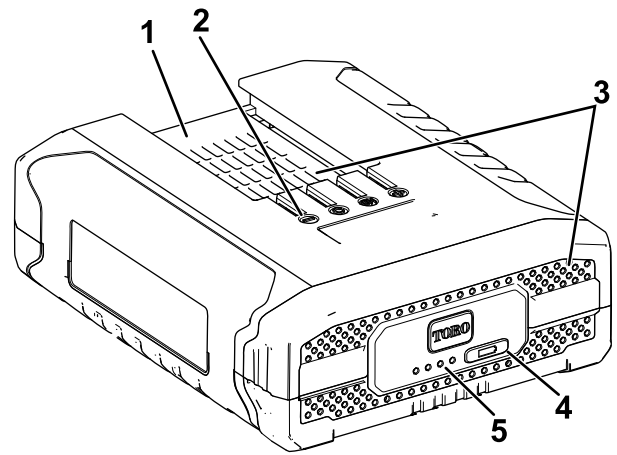

Figure 8
2. Line up the cavity in the battery pack (Figure 8) with the tongue on the charger.